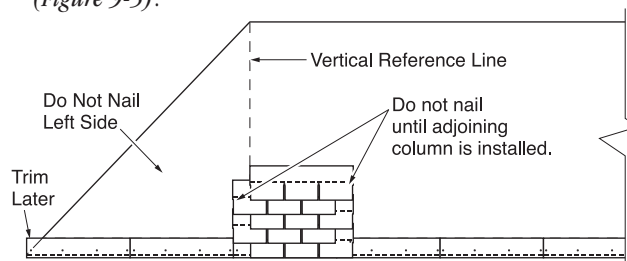

Figure 9-5: The Single-Column Rack
B. INSTALLING THE SINGLE-COLUMN RACK (*Figure 9-5*)
4. Install the first shingle of subsequent courses by alternating the pattern of the second and third courses. For even-numbered courses, overlap the vertical reference line by half a tab and omit the left most nail. For odd-numbered courses, position the shingle flush with the line and omit the rightmost nail (*Figure 9-5*).